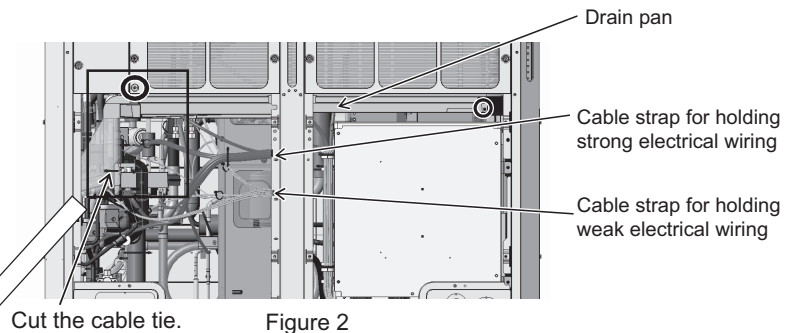

Figure 2
- (5) Remove the drain pan cover by unscrewing the screw and cutting the cable tie. (See Figures 2 and 3.)
- (6) Remove the drain pan by unscrewing the two screws. (See Figure 2.)
Be sure to remove the two rod holders holding the check joints to the drain pan. (Figures 2 and 3 show the cable ties to be cut.)